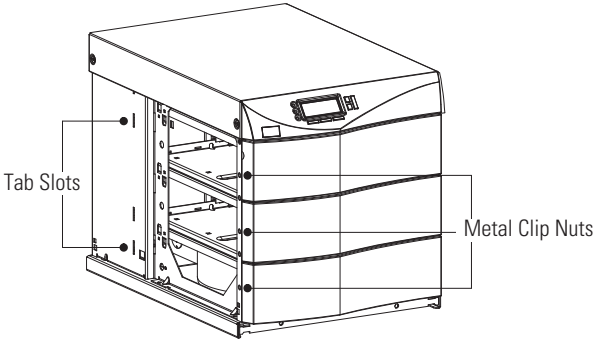
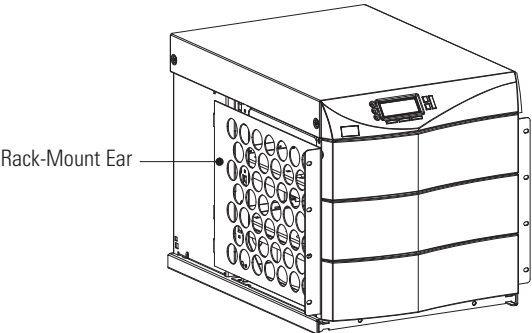

Figure 9. Metal Clip Nut and Tab Slot Locations
Figure 10. Rack-Mount Ear Installed
4. Install three metal clip nuts onto each side flange (six clip nuts on 6-slot cabinets) along the front of the UPS cabinet (see Figure 9).
5. Install a rack-mount ear (two for 6-slot cabinets) on each side of the UPS cabinet (see Figure 10). Insert the two offset tabs on the rear edge of the ear into the matching tab slots on the cabinet side frame (see Figure 9). Pivot the ear forward until it is flush against the UPS cabinet side frame. Using three 1/4-20 1/2" Phillips®-head bolts, screw the bolts into the metal clip nuts installed in Step 4.